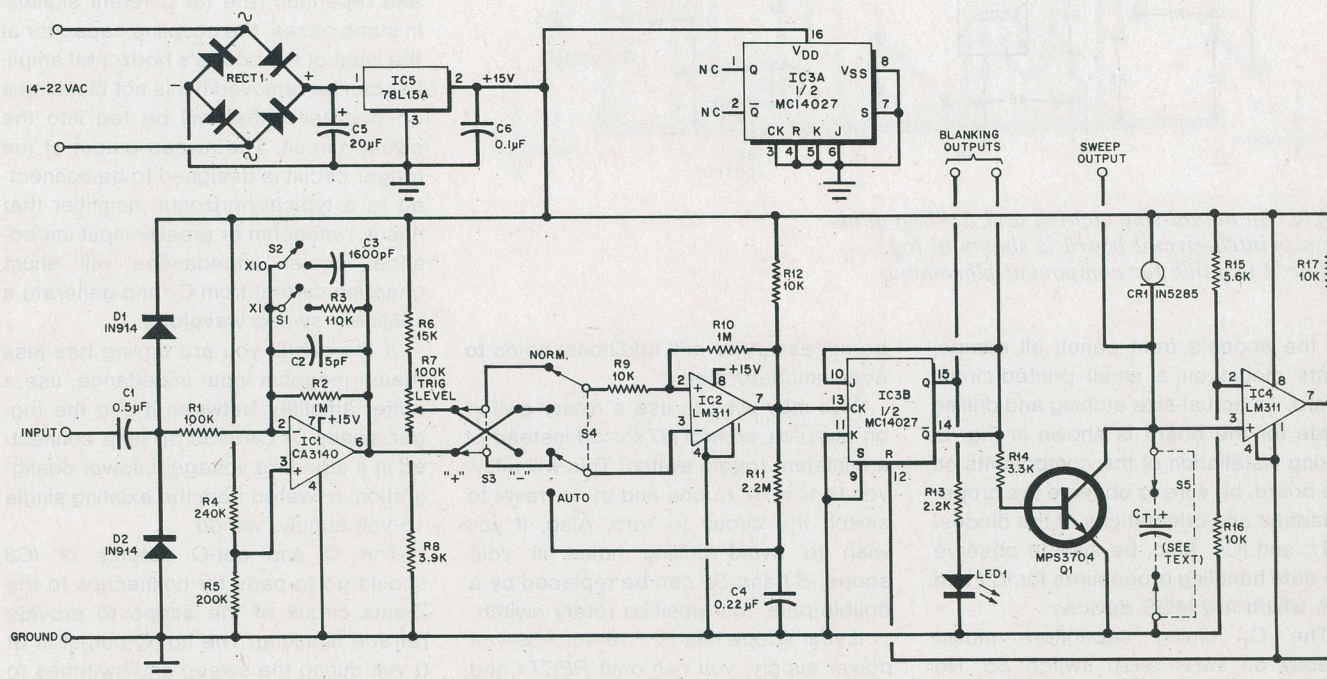

Fig. 1. A linear ramp is generated across the timing capacitor by the current regulator *CR1*.
Mount the display board with ¾" (9.5-mm) long spacers and machine hardware, using a ground lug on one post. Install the switches, LEDs, and connecting wires, referring back to Fig. 1 and the component-placement guides. Don't forget the ground wire to the chassis (case), and use twisted-pair leads for *S2* and *SPKR*. Label the front panel.
**About the Circuit.** The heart of the circuit, shown in Fig. 1, is field-effect current regulator CR1. This device adjusts its resistance to provide a constant current with only slight regard (within limits) to the voltage applied across it.